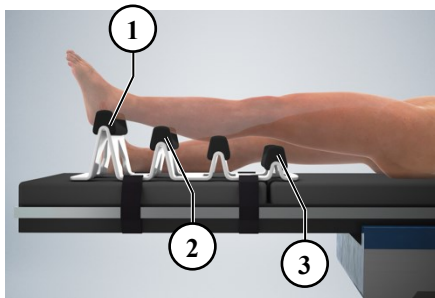

Fig. 5-13: *Position 1. Knee in extended position, with the heel resting on the tallest footrest.*
Figures 5-13 through 5-21 below do not show the drape for better visualization. The patient should never come in to contact with any portion of the RAMP, including the belts.
The RAMP is intended to be used with a lateral support. A lateral support can help prevent the knee and leg from falling laterally. Figures 5-13 through 5-19 below do not show this support for better visualization.
- ▶ To change the amount of knee flexion in various positions, position the patient more proximal or distal than what is shown in Figures 5-13 through 5-19.